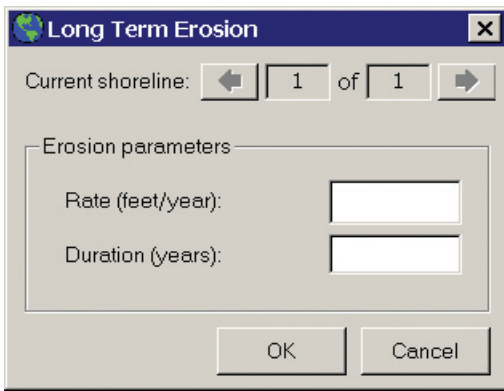

Figure 5-5 Long term erosion
- d. To include the coastal long-term erosion analysis, use the arrows on the top of the menu to select the different coastline segments of your study case (see Figure 5-5). Enter values for rate (feet/year) and duration (years) under “Erosion parameters” for each segment. Click “OK” when you have finished entering the parameters.